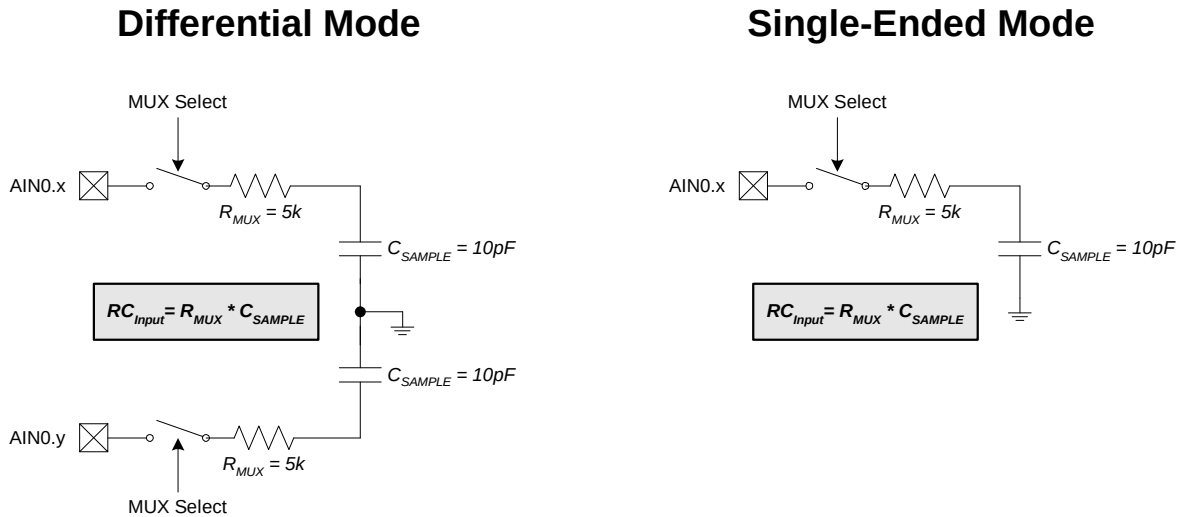

**Figure 6.4. ADC0 Equivalent Input Circuits**
A minimum tracking time is required before an accurate conversion can be performed. This tracking time is determined by the ADC0 MUX resistance, the ADC0 sampling capacitance, any external source resistance, and the accuracy required for the conversion. Figure 6.4 shows the equivalent ADC0 input circuits for both Differential and Single-ended modes. Notice that the equivalent time constant for both input circuits is the same. The required settling time for a given settling accuracy (SA) may be approximated by Equation 6.1. When measuring the Temperature Sensor output,  $R_{TOTAL}$  reduces to  $R_{MUX}$ . An absolute minimum settling time of 1.5  $\mu s$  is required after any MUX or PGA selection. Note that in low-power tracking mode, three SAR clocks are used for tracking at the start of every conversion. For most applications, these three SAR clocks will meet the tracking requirements.